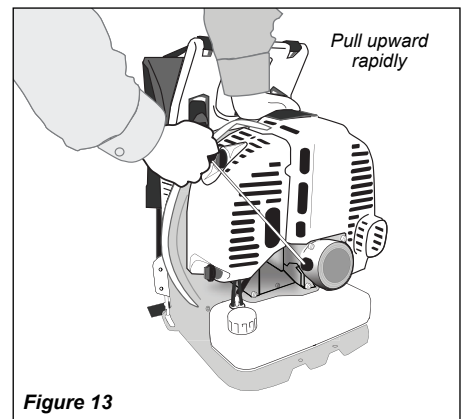

Figure 13
6. Using your right hand, pull the starter handle slowly until you feel the starter engage. See Figure 13.